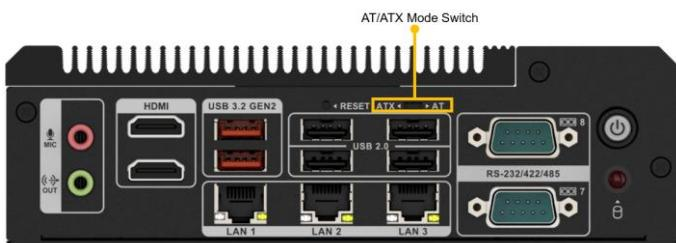

Figure 3-15: AT/ATX Switch Location
Step 1: Locate the AT/ATX switch on the front panel (**Figure 3-15**).